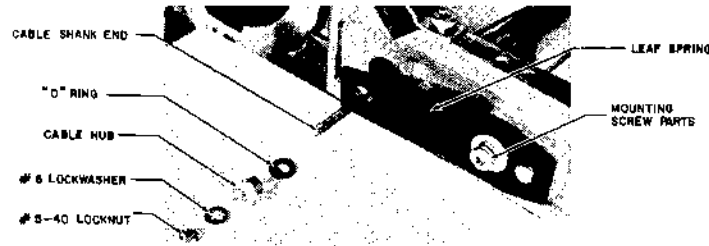

Figure 5-37 CARRIAGE DRIVE CABLE TENSION SPRING ASSEMBLY
- # Assemble the following items on the free end of this second cable shank as it protrudes out beyond the side of the frame, in the order listed as shown in Figure 5-37. Put the locknut on finger tight only, and avoid twisting the cable.
Refer to Figure 5-37.